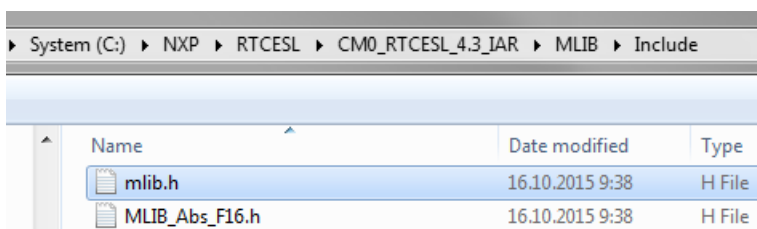

Figure 1-34. Add Files dialog
5. Navigate into the library installation folder C:\NXP\RTCESL\CM0_RTCESEL_4.3_IAR\MLIB\Include, and select the *mllib.h* file. (If the file does not appear, set the file-type filter to Source Files.) Click Open. See Figure 1-34.